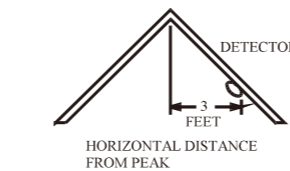

Figure 5: RECOMMENDED LOCATION TO MOUNT SMOKE ALARMS IN ROOMS WITH SLOPED, GABLED, OR PEAKED CEILING
- If some of your rooms have sloped, peaked, or gabled ceilings, try to mount alarms 3 feet (0.9 meter) measured horizontally from the highest point of the ceiling as shown in Figure 5.